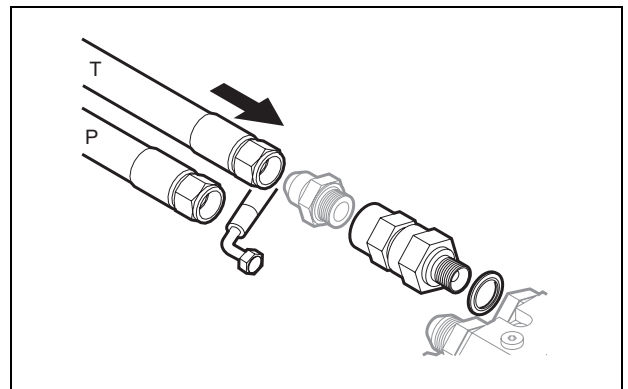

Fig. 18 Assemble the hydraulic hoses to the saw motor manifold
5. Assemble the hydraulic hoses to the saw motor manifold. *See Fig. 18.*
- 1 Install a check valve and a bonded seal to the return (T) line of the saw motor.